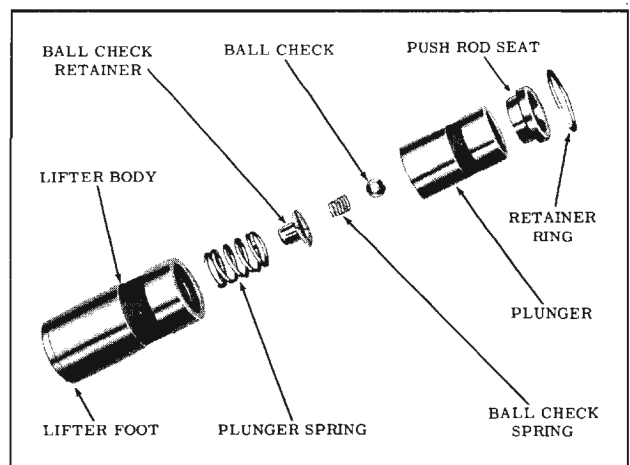

Fig. 8-15 Hydraulic Valve Lifter
**IMPORTANT:** DO NOT CONDEMN VALVE LIFTERS THAT HAVE A SLIGHT GAP OR SHOW EVIDENCE OF LEAKAGE WHERE THE LIFTER FOOT IS WELDED TO THE LIFTER BODY (FIG. 8-15) UNLESS THE LEAK-DOWN RATE IS NOT WITHIN SPECIFICATIONS. (SEE VALVE LIFTER LEAK-DOWN)